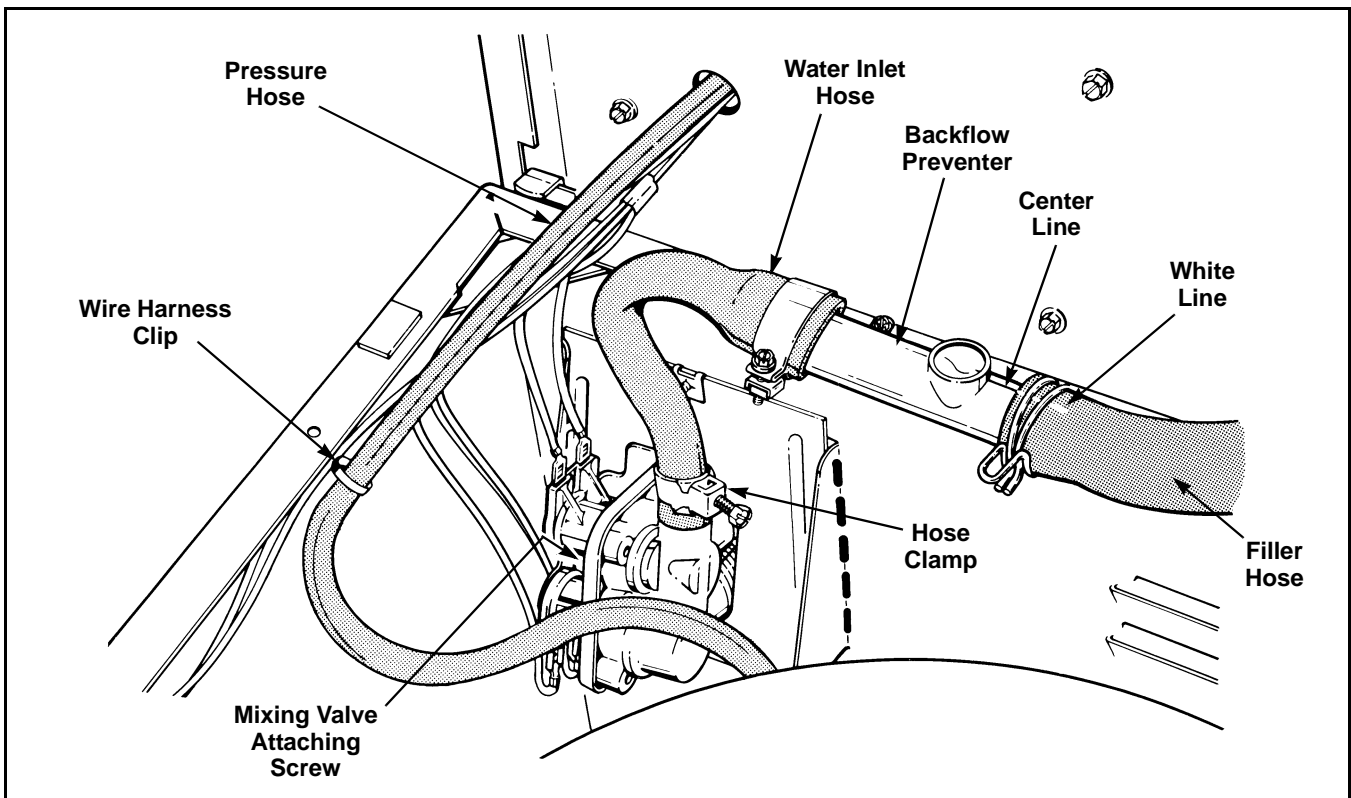
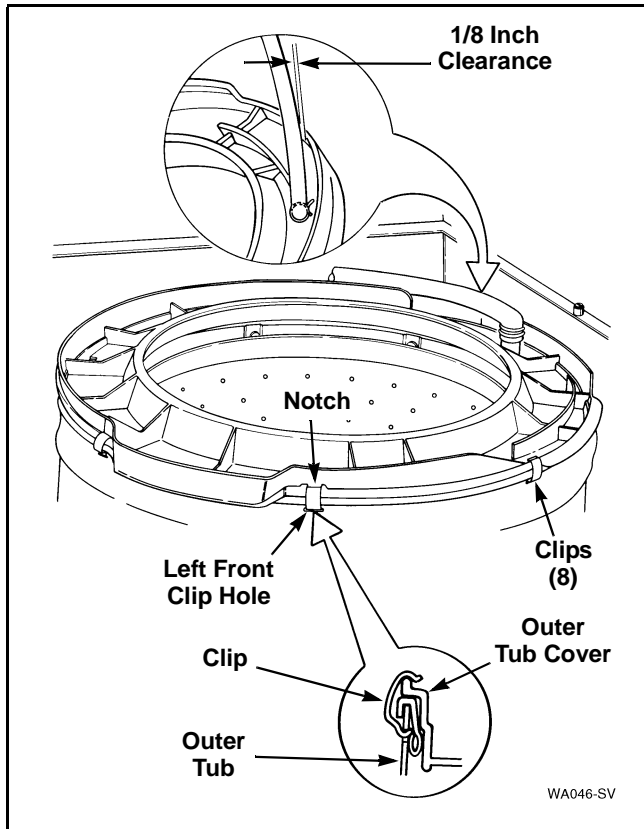

Figure 30
Figure 31
- Remove screw holding mixing valve to mounting bracket at rear of washer cabinet. Refer to *Figure 30*.
- Pull mixing valve out toward front of washer far enough to permit disconnecting water inlet hoses from mixing valve. Refer to *Figure 30*.
- Disconnect filler hose from backflow preventer. Refer to *Figure 30*.
**NOTE:** When installing filler hose, white line on hose must be aligned with center line of backflow preventer. Refer to *Figure 30*. A 1/8 inch clearance is necessary to prevent the hose from rubbing on the flange of the tub cover. Refer to *Figure 31*. Loosen hose clamp and move hose to obtain the proper clearance.
- d. Remove eight clips holding outer tub cover to tub, lift cover off tub and set beside washer cabinet. Refer to *Figure 31*.
**NOTE:** When installing outer tub cover, always use a new cover gasket. Lubricate the gasket with liquid soap to aid in assembly. Cover must be placed on outer tub so notch on top edge of outer tub cover is directly over left front clip hole in tub. Refer to *Figure 31*. Starting with this hole, place each spring clip in its respective hole and snap in place. Refer to *Figure 31* for proper clip installation.
- c. Disconnect filler hose from backflow preventer. Refer to *Figure 30*.
**NOTE:** Starting with Serial No. N3605085, when installing filler hose, white line on hose must be aligned with center line of backflow preventer. Refer to *Figure 30*.
- Disconnect filler hose from backflow preventer, then remove the eight clips holding cover to outer tub. Refer to *Figure 31*.
**NOTE:** When reinstalling filler hose, white line on hose must be aligned with center line of backflow preventer. Refer to *Figure 30*.